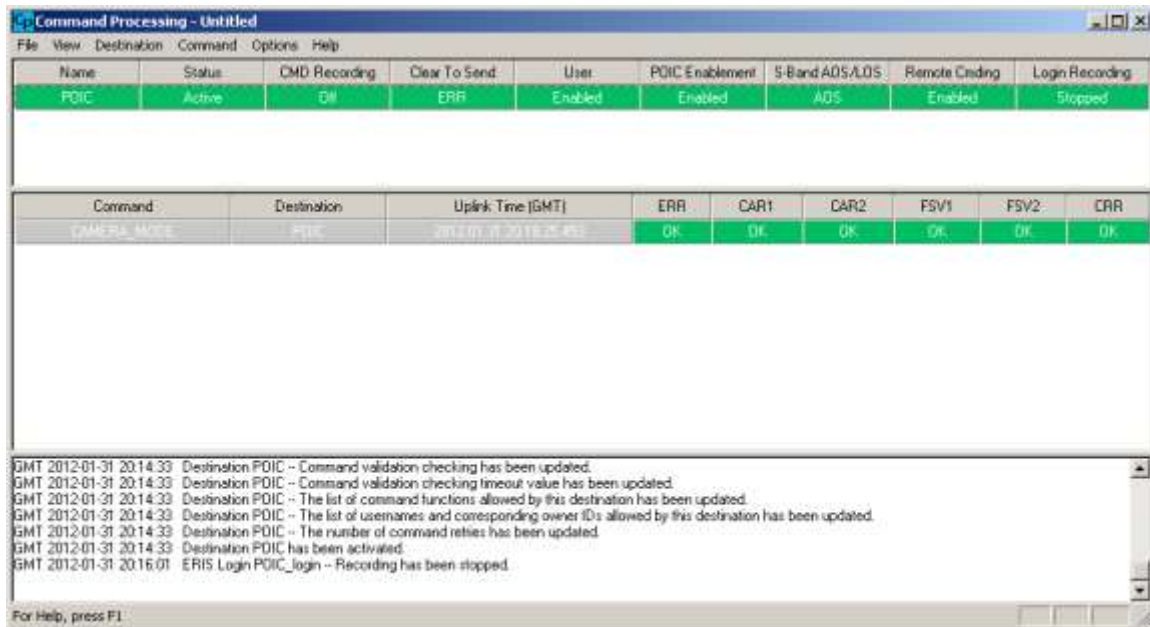

Figure 29 Command Response Information
4. Look at the middle area of the Command Processing Main Window (shown in Figure 29). This is called the Main Window Command Track area. You now see the CAMERA_MODE command in the command track list, along with the name of the destination where the command was sent, the command uplink time, and information about each command response that was received.